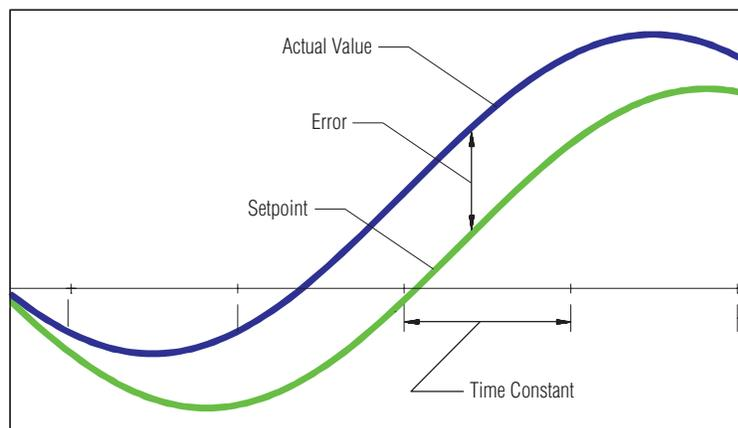

Figure 1: Error and Time Constant
Internally, Movidrive® inverters contain a PI (Proportional-Integral) loop for speed control, similar to cruise control in an automobile. At a given moment in time, a PI Loop measures the motor's actual speed and compares it to the desired setpoint speed. The difference is the error, as shown in Figure 1. Based upon this difference, the error correction process of the PI Loop makes appropriate adjustments to the drive's performance, with the goal of having zero error and having the actual speed equal to the desired speed at the next measurement.
- **Time constant** is the rate of error correction. It is the amount of time that actually passes between each error correction, as shown in Figure 1. The Time constant is similar to how often a person looks at the speedometer in order to speed up or slow down. MoviTools® allows the entry of Time constant either during startup or from the parameters.